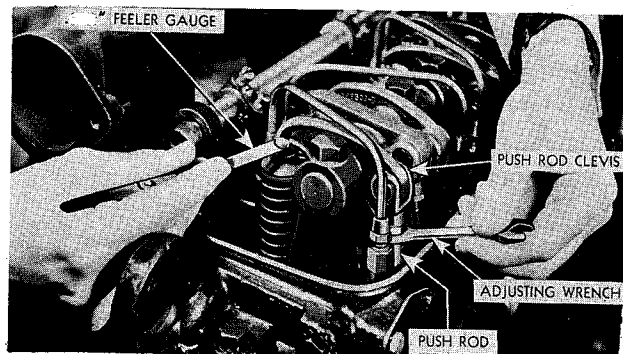

FIG. 26
3. Check clearance between valve stems and rocker arms (Fig. 26). When adjusted properly a .009" thickness gauge should pass between them with a slight drag when the engine is at normal operating temperature. With the engine